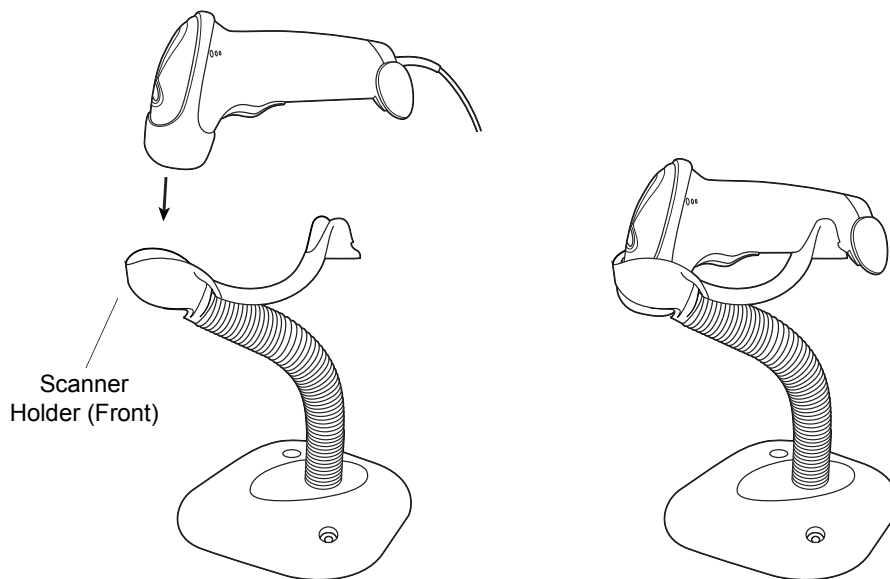

Figure 2-7 *Inserting and Using the Scanner in the Stand*
2. Insert the scanner in the optional Intellistand by placing the front of the scanner into the stand's "cup" (see Figure 2-7).